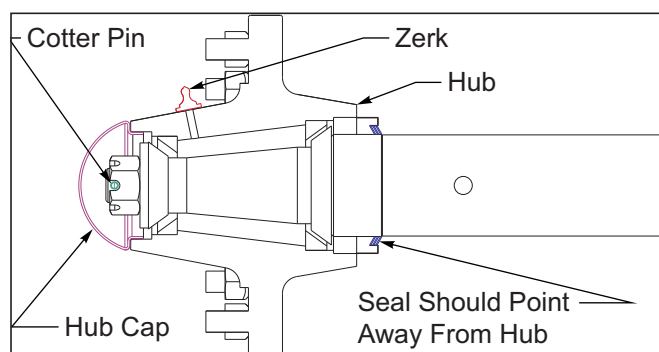

Figure 4-9: Triple Lip-Seal
The triple-lip seals should point away from the hub to keep contaminants out and allow grease to pass See Figure 4-9.
7. Install a new cotter pin and replace the hub cap. See Figure 4-9.